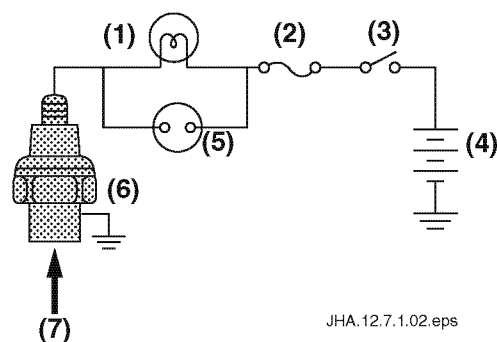

Figure 11-11
When the main power switch (Figure 11-11, (3)) on the instrument panel is in the ON position and the engine is running, oil pressure (Figure 11-11, (7)) forces the contact points to open.
This opens the circuit to ground and allows the engine to run. When engine oil pressure drops below 0.01 to 0.03 MPa (1.5 to 4.3 psi), the contacts are closed by spring pressure and the warning indicator (Figure 11-11, (1)) and audible alarm (Figure 11-11, (5)) are activated.